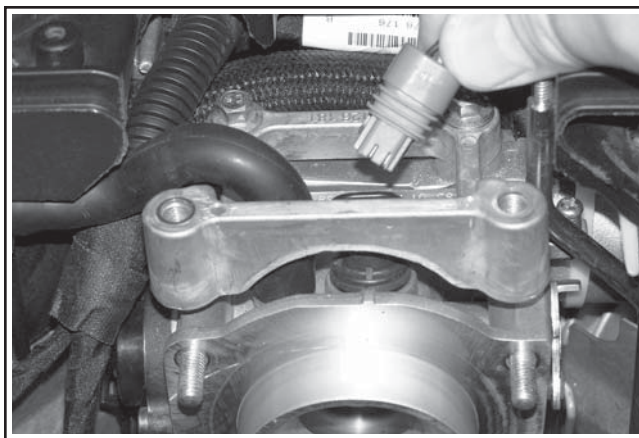

**Figure 8-16. Remove Oetiker Clamp.**
6. Using a side cutter or similar tool, cut the Oetiker Clamp off to remove the inlet fuel line. A new Oetiker Clamp will need to be used for reinstall. See Figure 8-16.